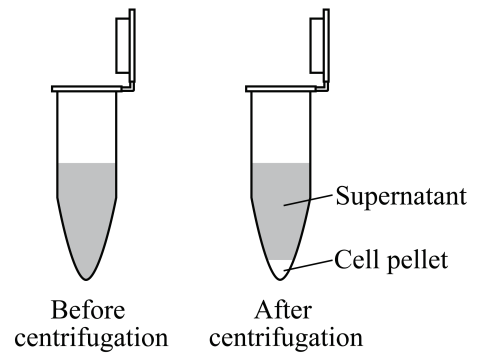

Fig. 7
4. Centrifuge the 2 tubes at 5,000 rpm for **3 minutes** to pellet the *E. coli* cells to the bottom (Fig. 7). Carefully pour off and discard the supernatant in the designated disposal container with 10% chlorine bleach. **Save the cell pellet**, which is located at the bottom of the tube.
6. Centrifuge the 2 tubes at 5,000 rpm for **3 minutes** to pellet the *E. coli* cells (Fig. 7). Carefully pour off and discard the supernatant in the designated disposal container with 10% chlorine bleach. **Save the cell pellet**.